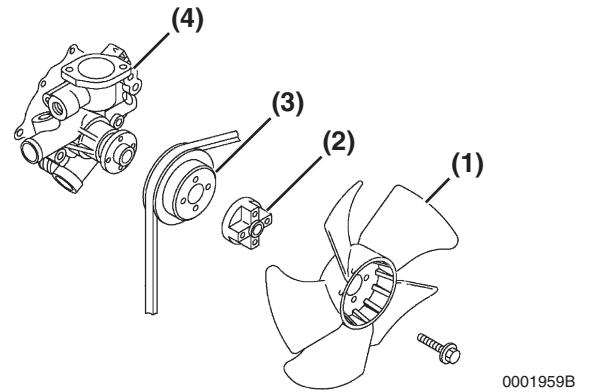

Figure 8-10
7. Reinstall the engine coolant pump V-pulley (Figure 8-10, (3)), spacer (Figure 8-10, (2)) engine coolant fan (Figure 8-10, (1)) and engine coolant fan guard (if equipped).